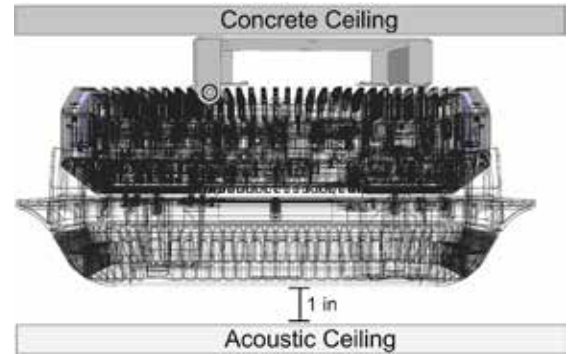

Figure 2. Example of (Concrete) Ceiling Installation of Mounting Bracket (RAU5x with External Antenna)
**Step 2:** Drill the appropriate screws (not provided) through the bracket installation holes and secure to surface. See Figure 2.